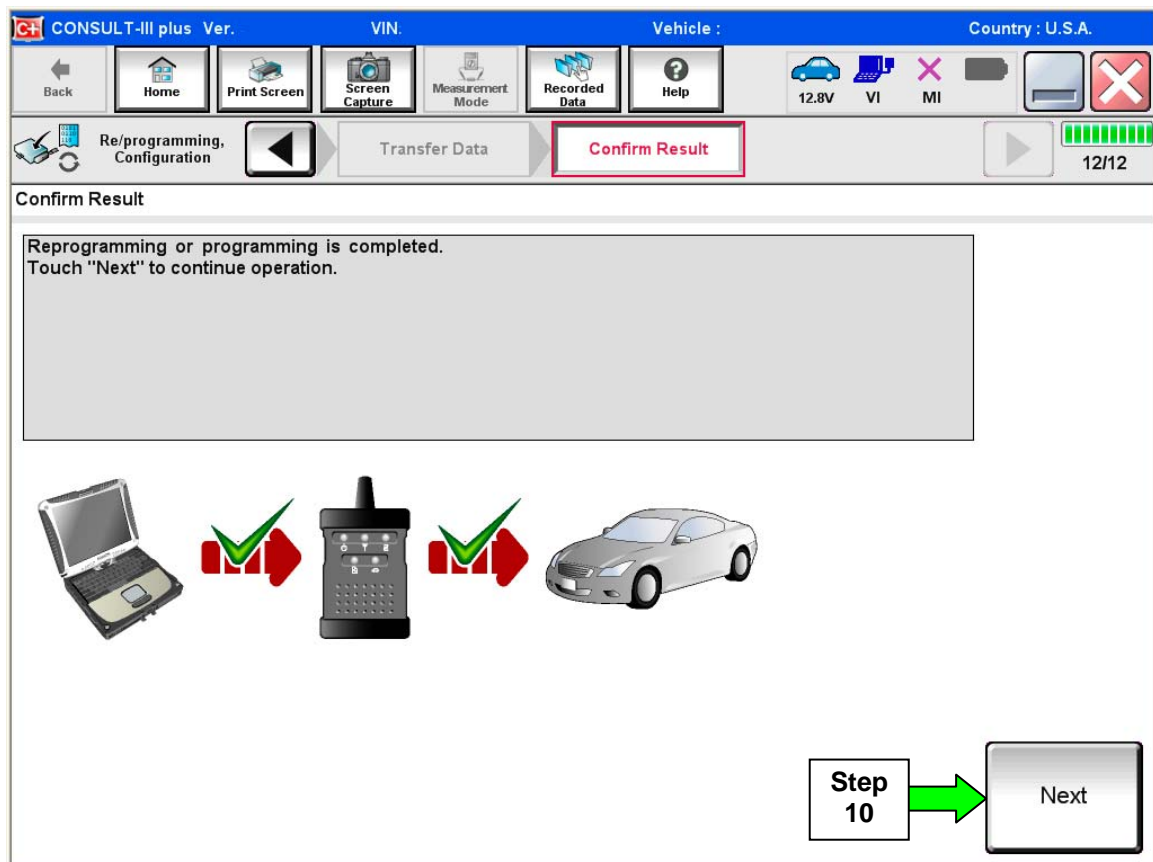

Figure 16
8. When the screen in Figure 16 displays, reprogramming is complete.
**NOTE:** If the screen in Figure 16 does not display (reprogramming does not complete), refer to the information on the next page.